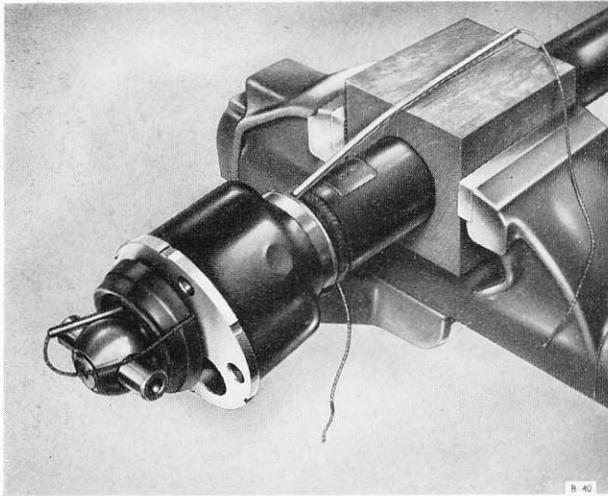

Fig. F9 Method of passing the cord through the tube
- (vii) Pass the tube between the sealing boot and the propeller shaft, then pass the cord through the tube to form a loop around the sealing boot as shown in Figure F9. Remove the tube.